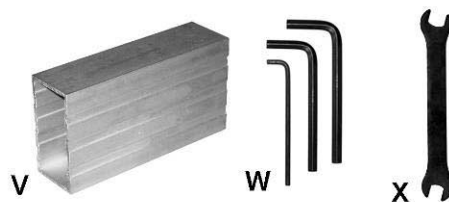

Figure 4 – Tools Included
1. Select two *legs* (SE), one *short stand top support* (SD) and one *short support plate* (SB).
2. Attach one end of the *stand top support* (SD) to the top of the first leg with two *carriage bolts* (SG), *flat washers* (SH), *lock washers* (SJ) and *hex nuts* (SK). Attach the other end of the *stand top support* (SD) to the second leg in the same manner. Hand-tighten only at this time.
3. Attach a *support plate* (SB) to each leg (SE) in the same manner with two *carriage bolts* (SG), *flat washers* (SH), *lock washers* (SJ) and *hex nuts* (SK). Hand-tighten only at this time.
5. Complete the stand construction by attaching *long stand top supports* (SE) and *long support plates* (SA) to the leg assemblies constructed in steps 1–4. Hand-tighten all hardware only at this time.
6. Place a *rubber foot* (SQ) on a *hex cap screw* (SF), then insert the threaded end of the screw through the opening on the bottom of the leg.
7. Secure with *flat washer* (SH) and *hex nut* (SK).
10. Tighten all hex nuts with the 10mm wrench (U, Fig. 4) provided.
1. Place the *Jointer-Planer* (D) onto the assembled stand and secure with 4 *socket head cap screws* (SM), *lock washers* (SP), and *flat washers* (SN).
2. Tighten all *socket head cap screws* (SM) with the 5mm hex wrench (W, Fig. 4) provided.